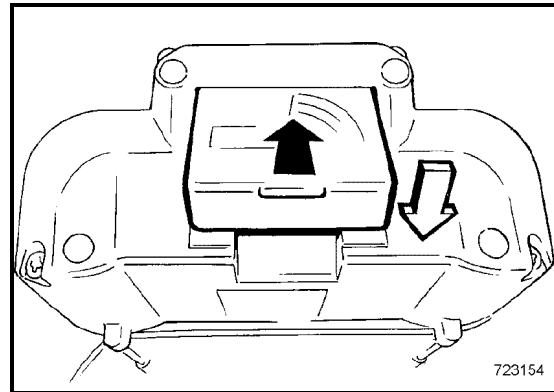

Fig. 63
- Insert the replacement power pack into the receptacle (Fig. 63) and let it click into place.